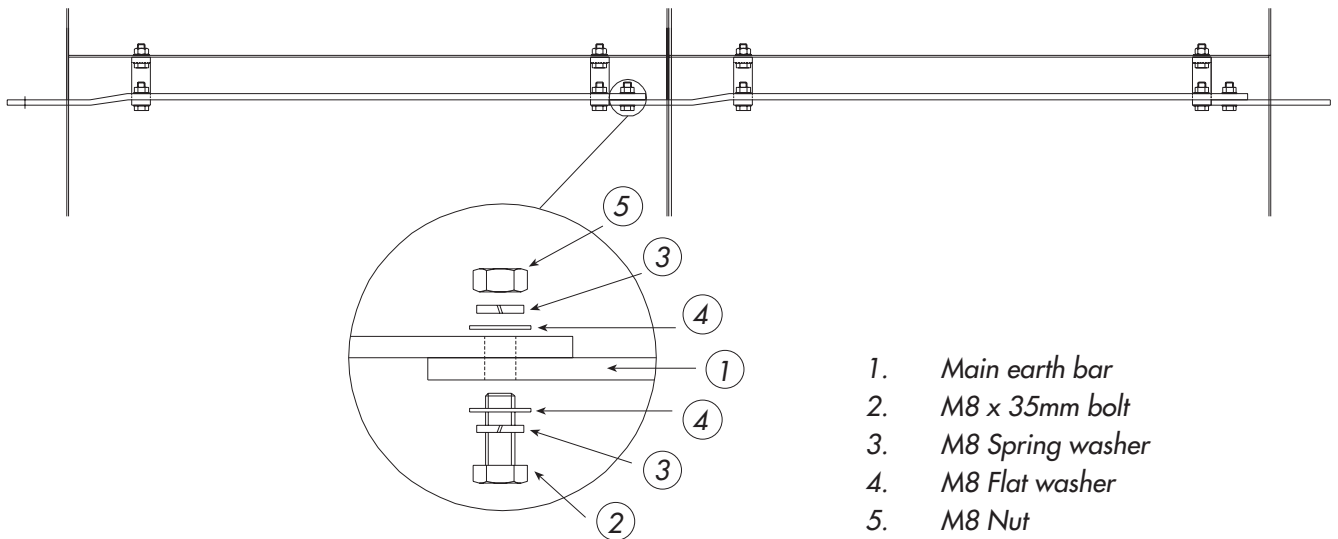

Figure 2.15 Earth bar connection
- fasten the earthing bar by means of a M8 x 35 mm bolt with flat and spring washers and nut, to the required torque (refer to figure 2.15)